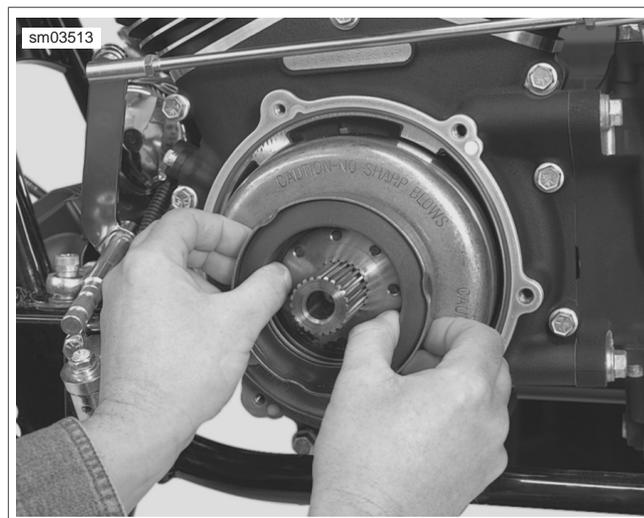

Figure 8-78. Remove Rotor/Spring Cover Assembly
4. Grasp the rotor/spring cover assembly with both hands and pull from the engine compensating sprocket shaft. See Figure 8-78.